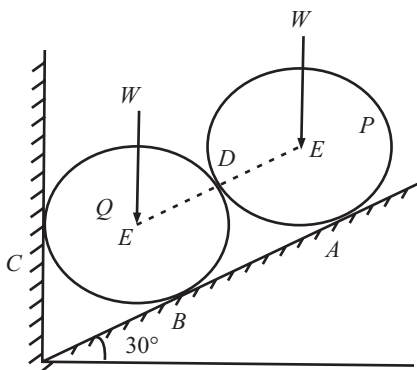

Fig 6.49
Q. 51: Two cylindrical identical rollers *A* and *B*, each of weight *W* are supported by an inclined plane and vertical wall as shown in fig 6.49. Assuming all surfaces to be smooth, draw free body diagrams of